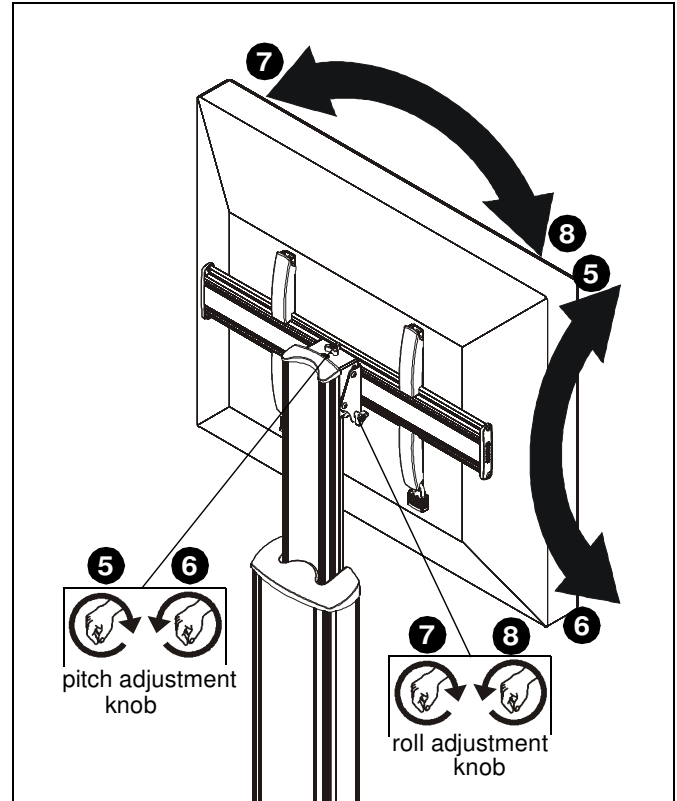

Figure 16
5. Turn pitch adjustment knob clockwise to tilt display forward. (See Figure 16)
6. Turn pitch adjustment knob counterclockwise to tilt display back. (See Figure 16)
7. Turn roll adjustment knob clockwise to adjust roll to the left. (See Figure 16)
8. Turn roll adjustment knob counterclockwise to adjust roll to the right. (See Figure 16)